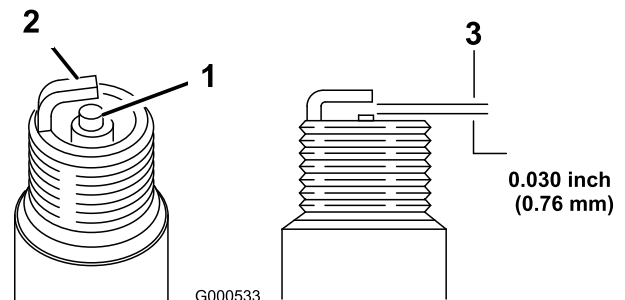

Figure 35
11. Set the gap on the plug to 0.030 inch (0.76 mm) as shown in Figure 35.